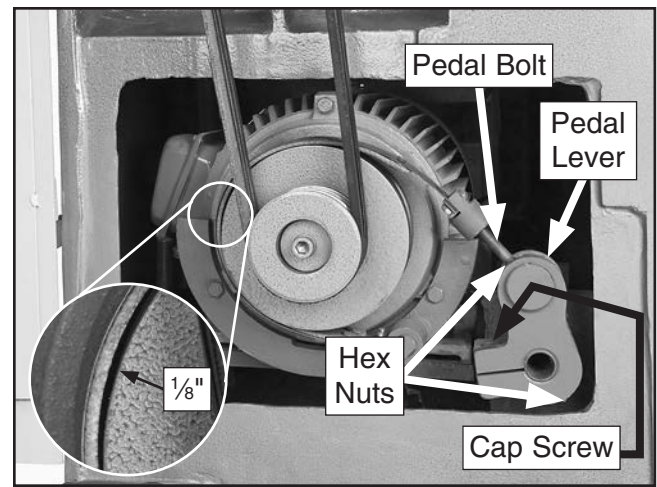

Figure 137. Brake tensioning components.
5. Adjust the hex nuts on the pedal bolt shown in **Figure 137** to tighten the brake band so there is approximately $\frac{1}{8}$ " clearance between the pad and hub around its circumference.
—If additional brake band tension is needed, loosen the cap screw shown in **Figure 137**, pivot the pedal lever to the right and tighten the cap screw.